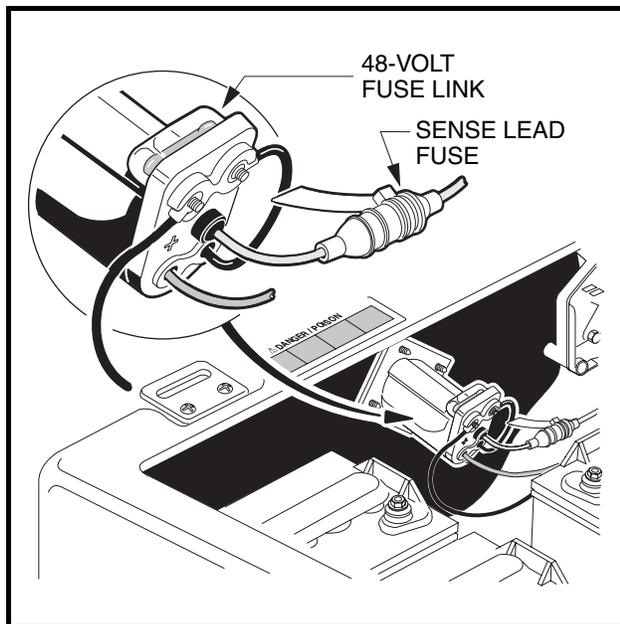

Figure 26 Sense Lead Fuse
- **Vehicles with a charger receptacle: Never modify wiring to bypass the gray sense lead fuse (Figure 26, Page 52).**
As an additional feature to protect the batteries and charging circuit from an overload, Turf 1, Turf 2, Carryall 1, and Carryall 2 electric vehicles are equipped with a receptacle fuse link (**Figure 26**). If the charger does not turn on when the vehicle is placed on charge, inspect the fuse link.